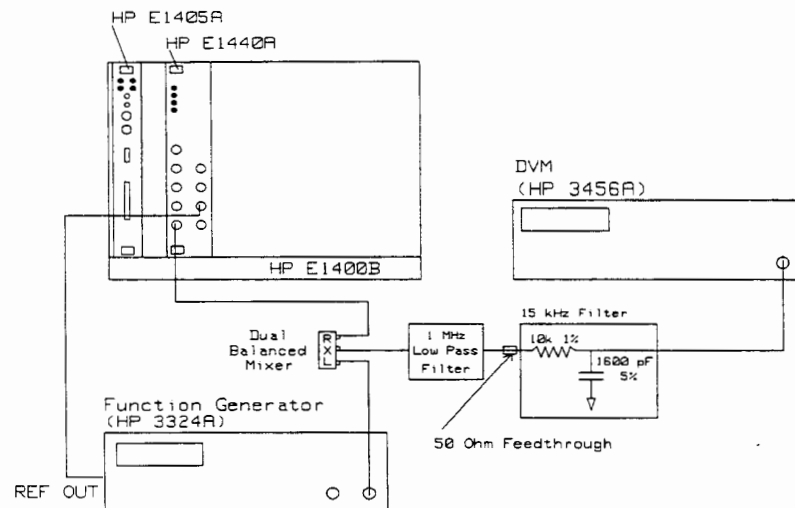

Figure C-5. Integrated Phase Noise Test Set-Up
1. Connect the equipment as shown in Figure C-5, connecting the output of the 15 kHz noise equivalent filter to the DVM. Phase lock the HP E1440A and the signal generator together.